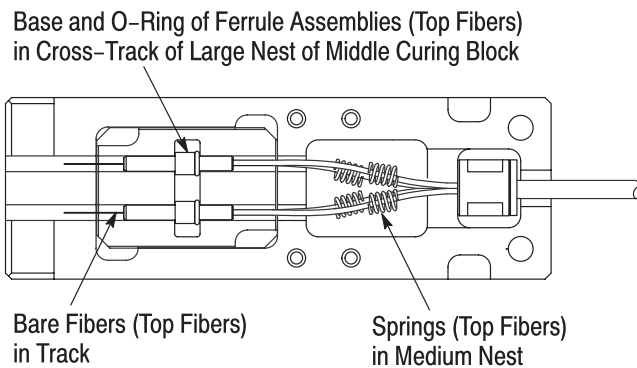

Figure 6
7. Refer to Figure 6, and perform the following for one of the top fibers:
- 8. Repeat Step 7 for the remaining top fiber. See Figure 6.